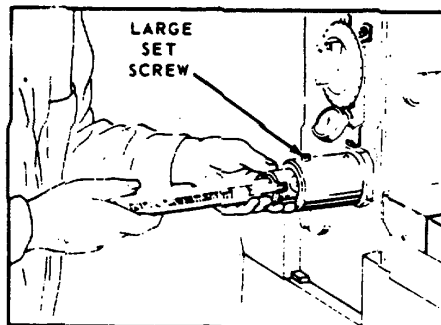

Figure 14
- (4) See Figure 14. Rotate spindle so that Large Set Screw is at 12 o'clock position. With stone of honing unit turned a quarter turn to right of large set screw, insert honing unit in spindle as far as it will go. Then rotate the honing unit a quarter turn clockwise and push unit in until it "bottoms". Tighten Large Set Screw: